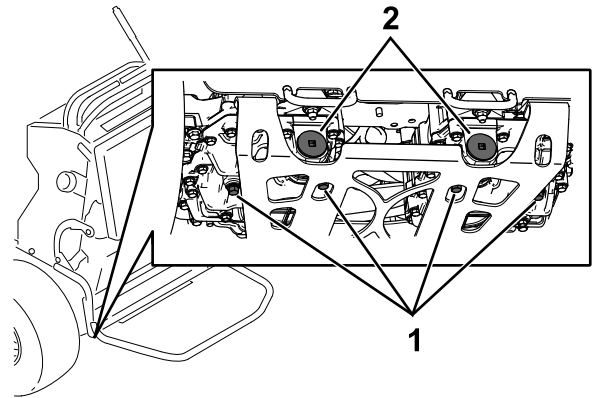

Figure 71
5. Locate the drain plug in the bottom of each transmission and place a drain pan under the plugs (Figure 71).